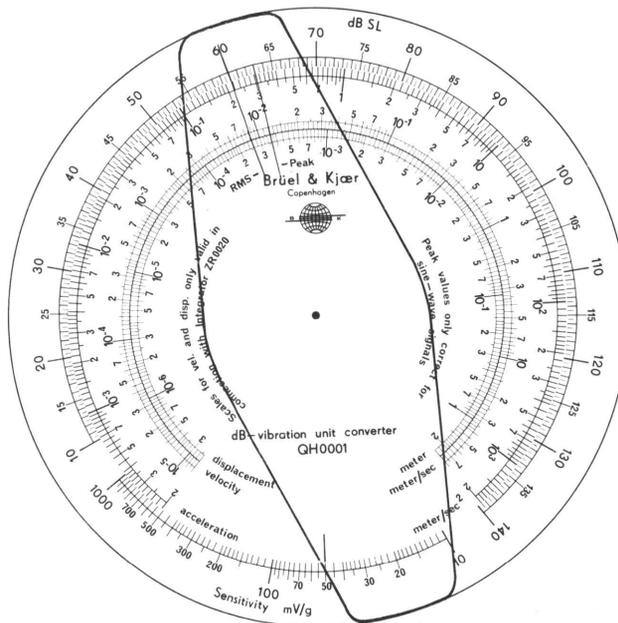

Fig. 3.4. Slide Rule QH 0001 set for an accelerometer sensitivity of 50 mV/g and an SPL of 60 dB
The vibration amplitude may only be calculated in the same parameter as that set on the Integrator, and the Slide Rule must not be used to convert from one parameter to another. To determine another parameter, the Integrator must be set and the 2203 calibrated for that parameter and new measurements made. The circular Slide Rule QH 0001 (shown in Fig.3.4) provided with the Integrator should be used to make the calculations as follows:
1. Set the isolated red line on the sliding scale adjacent to the accelerometer sensitivity in mV/g on the outer scale of the Slide Rule. (It is shown adjacent to 50 mV/g in Fig. 3.4.)